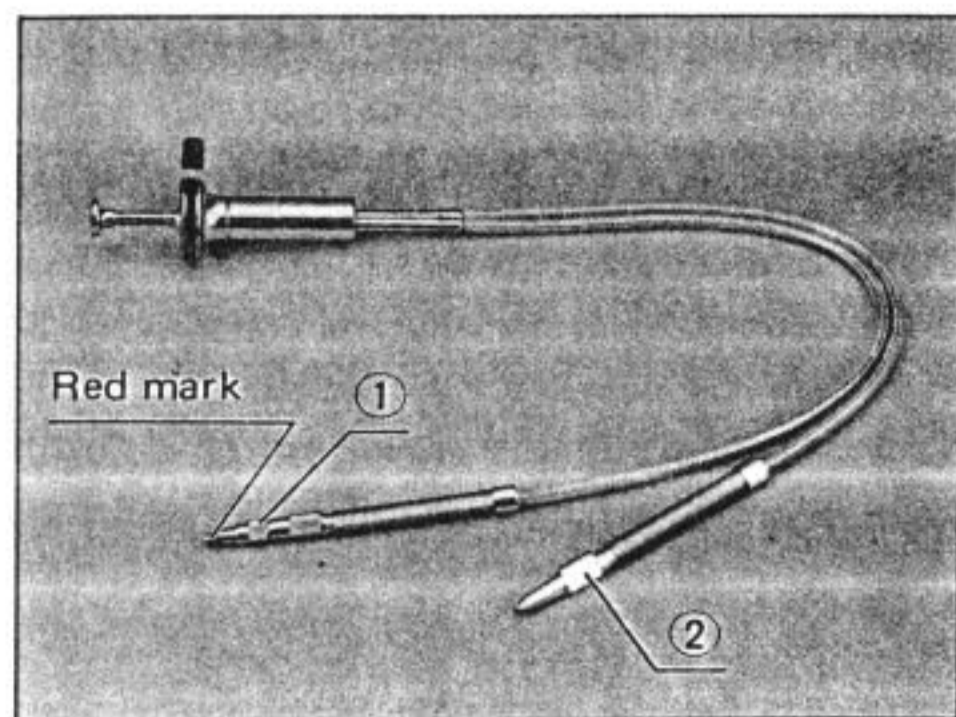

Fig. 10
The auto iris diaphragm built in each macro lens can be automatically synchronized with the camera shutter by means of the double cable release. The two needles at the double cable release must be adjusted before loading the film so that the longer needle ①, marked red, that screws into the socket on the bellows comes earlier than the other needle ② that screws into the shutter release button of the camera back; otherwise, both needles simultaneously actuate so that the shutter is open before the diaphragm blades stop down all the way to the preset aperture. (Fig. 10)